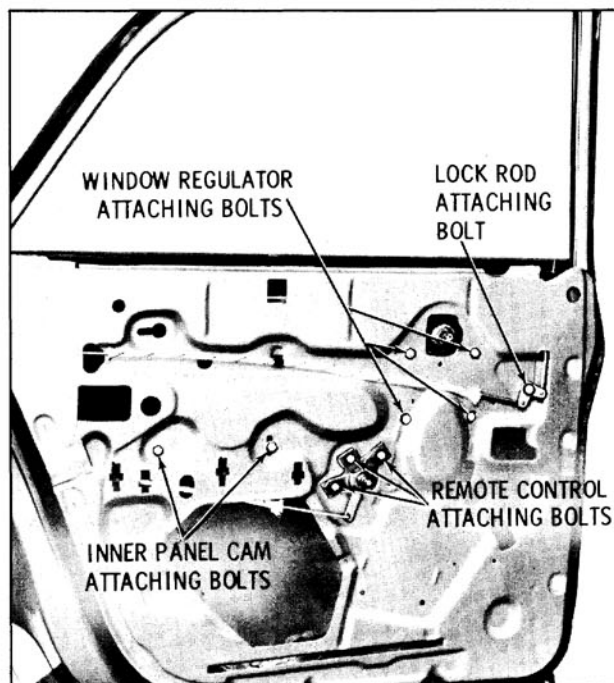

Fig. 16-63 Rear Door Hardware
1. Raise door window, remove door trim pad and detach inner panel water deflector sufficiently to expose inner panel cam attaching bolts. (Fig. 16-63)
5. Disengage rod from spring clip on door inner panel. Remove inside locking rod attaching bolt and remove assembly from door. (Fig. 16-63)
- Remove rear door window inner panel cam. (Fig. 16-63)